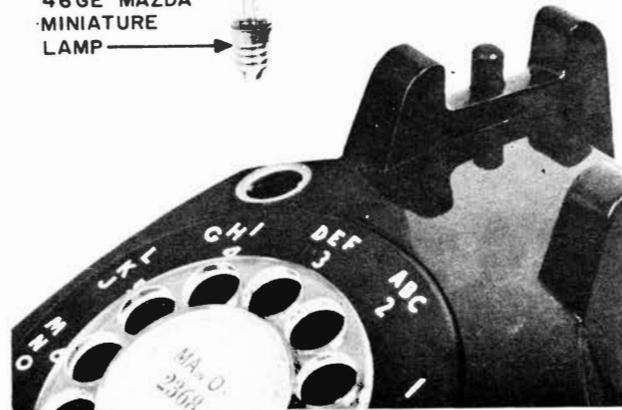

Fig. 36 - 500H, PR, UR, or 501PR, UR Set, Lamp Assembly
4.11 On dial illuminated sets, the lamp screws into the lamp socket, and the lamp cap fits into a bayonet socket (see Fig. 36).